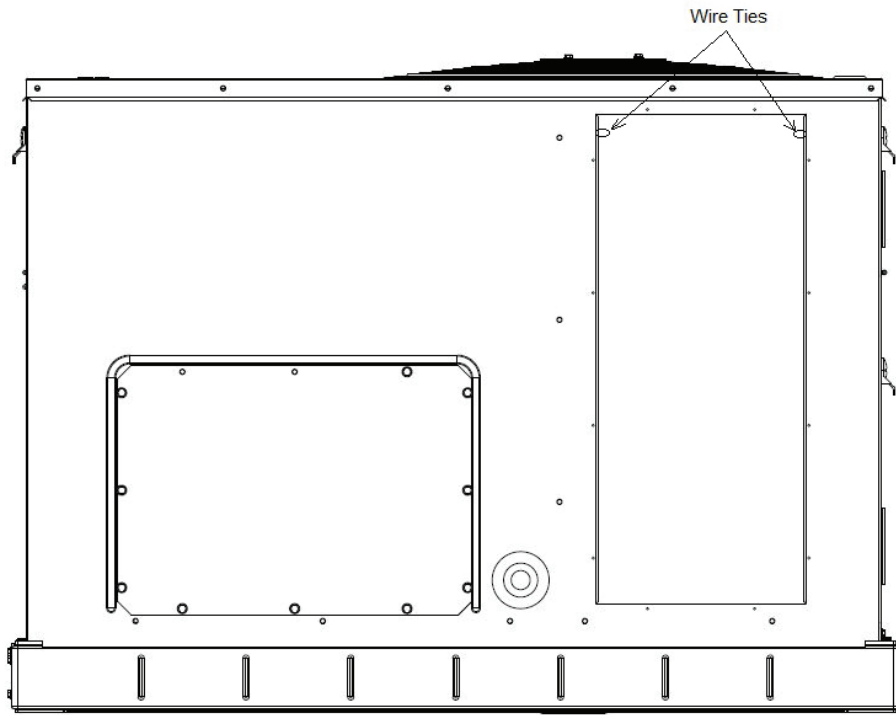

Fig. 2 - Remove Wire Tie
2. There are snap in wire ties for the harness snapped into a hole in the horizontal return opening flanges. Remove wire ties. (See Fig. 2.) Coil up wire harness with supplied wire ties.